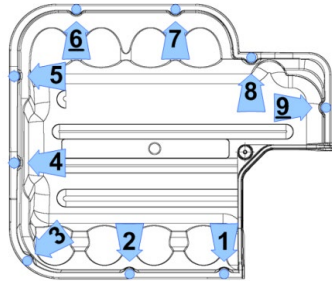

Figure 23 – Top Cover Install
11. Place the Top Cover and secure it with the fasteners according to the following sequence. Follow the sequence twice. The first time, only thread the fasteners half way down to allow for adjustments. Torque to 13 in.lb. on the second pass. Refer to Figure 23 (Top Cover Install).